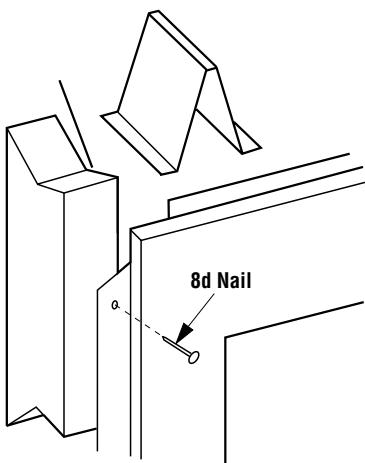

Figure 9
Step 4. Fireplace should be secured to side framing members using the full length nailing tabs at the top and bottom of the fireplace front face. Use 8d nails (see *Figure 9*).